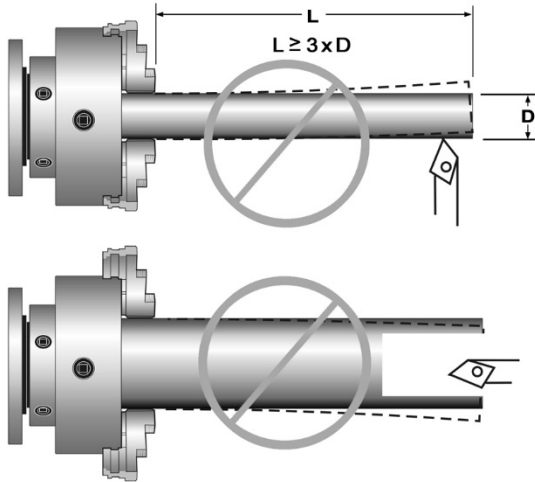

Figure 10-2
- Avoid long workpiece extensions, as parts may bend or fly off. See Figure 10-2. Use rests or the tailstock for support.